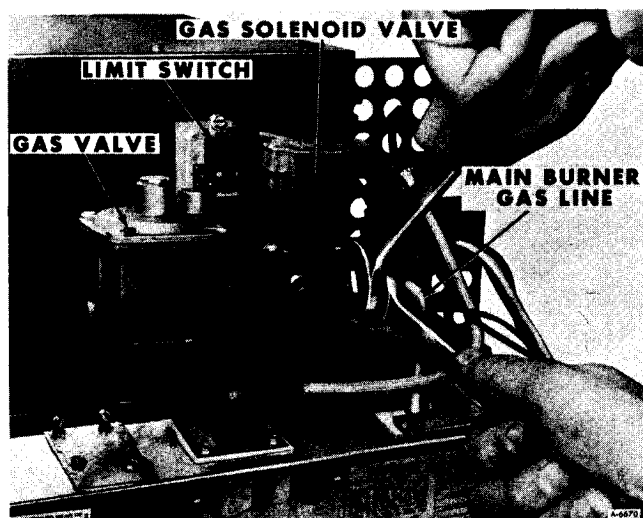

Figure 11 – Removing Gas Solenoid Valve
3. Remove gas solenoid valve from main burner gas line (Figure 11).
2. Connect gas solenoid valve to main burner gas line (Figure 11).